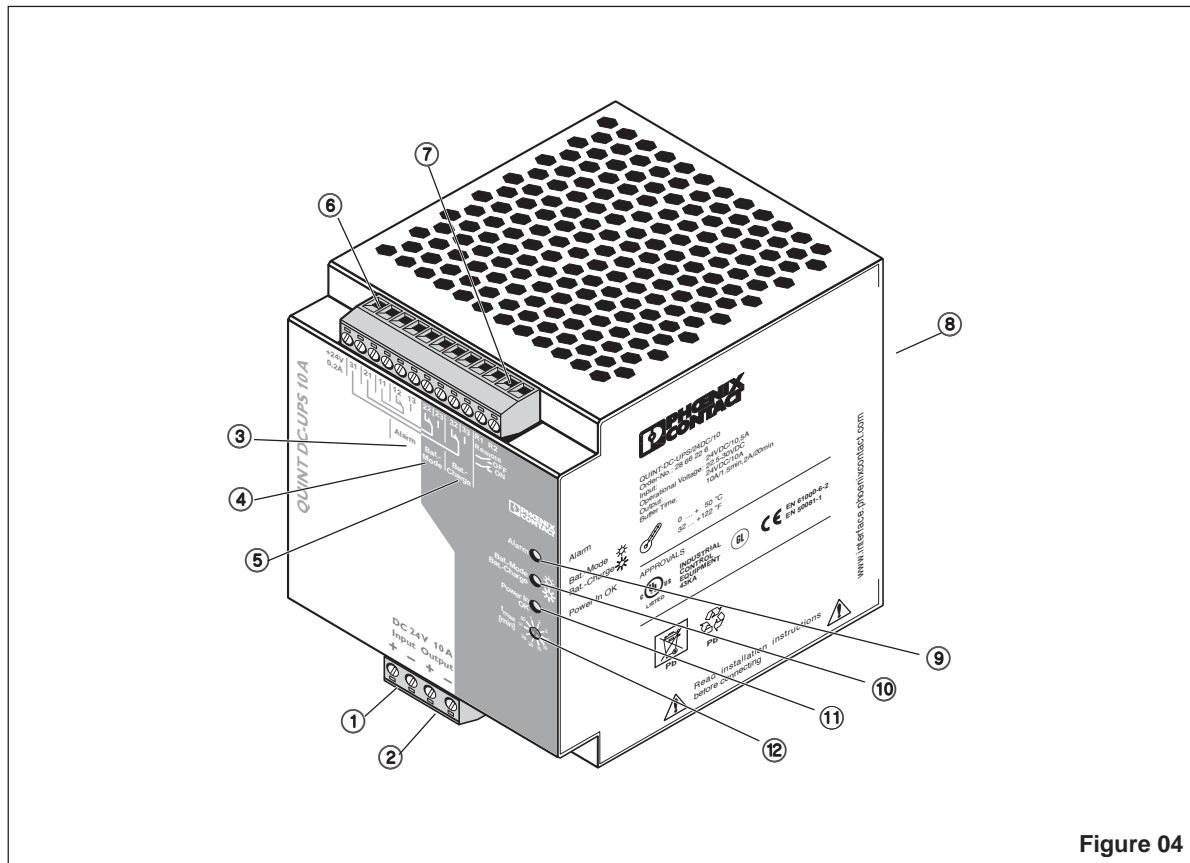
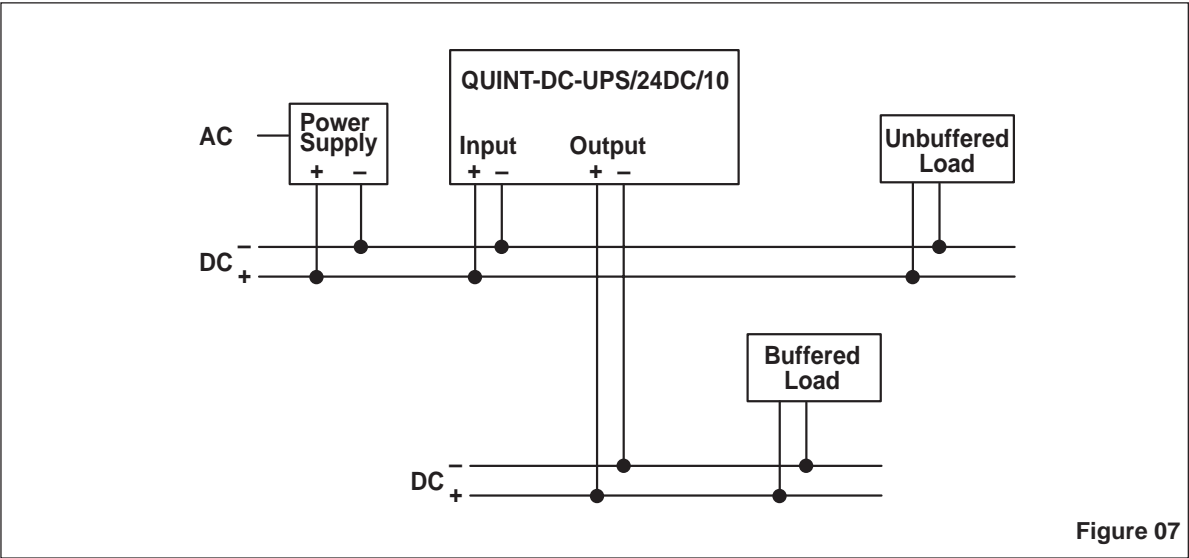
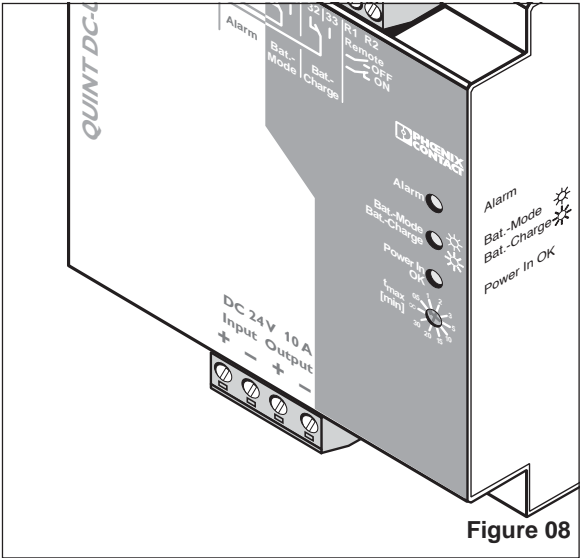

Figure 04
Figure 07
Figure 08
**5.4. Input (①, Figure 04, Figure 08)**
### 5.5. Output (② Figure 04, Figure 07)
All devices that must be supplied without interruption in the event of a supply voltage failure ("Buffered Load"), are connected to the "Output +" and "Output -" terminal blocks of the DC output (Fig. 07). It is recommended that all other loads, which do not require buffering ("Unbuffered Load"), are connected to the 24 V DC output of the power supply.